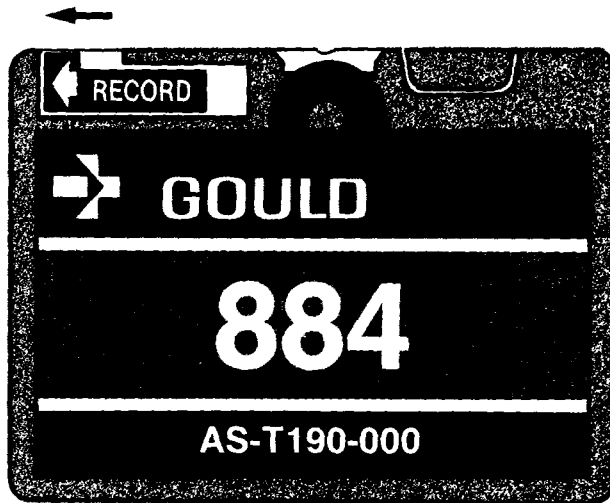

Figure 3-1. "Write Enabled" Blank Tape
1. If evaluating a used tape, first erase the tape with a bulk tape eraser. Slide the "record" tab to the left, so that the tape is in a "write enabled" state. See Figure 3-1.
3. Remove the master tape. The CRT screen displays the message "LOAD WRITE ENABLED SCRATCH TAPE." Select a blank tape that has already been evaluated. Make sure that the "record" tab in the upper left-hand corner of the tape is pushed all the way to the left, so that it is "write enabled." See figure 3-1.